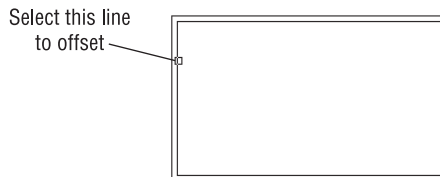

FIGURE 4.8: Selecting the wall line to offset
3. Click the inside line of the left exterior wall (see Figure 4.8).